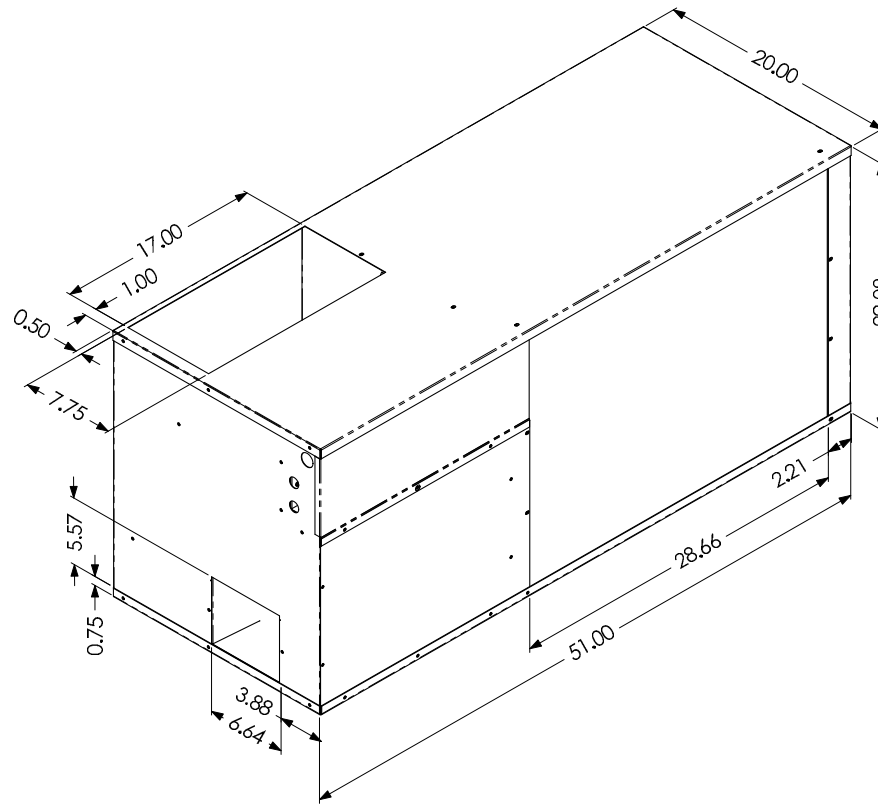

FIGURE 1
The outdoor air flow is drawn in through the front side of the heat pump (across the outdoor coil), and discharged out through the back side of the appliance (through the discharge opening). Figures 1 and 2 show the location of both the outdoor coil and discharge air opening.
- 6) Do not install any other heat generating appliance in the same cavity as the heat pump. Additional heat in this cavity will decrease system performance in the cooling mode. Overall package dimensions are shown in Figure 1. Airxcel, Inc. requires that a minimum of 4 additional inches be allowed at the wiring box end of the unit to allow for the installation of both the low and high voltage wiring.
The ducting configuration is the end outlet-top return configuration (Reference Figure 1). This system ducts the supply air out the end while the return air is drawn in through the top. With this configuration, one cut out will be required to match the end opening and another to match the top opening.
- B) Each circuit high voltage wiring must be routed through a separate opening in the outer cabinet of the wiring box. These openings are referred to as the “power wire entries” (See Figure 1). Airxcel, Inc. provides these two openings, each opening is a 7/8” diameter opening.